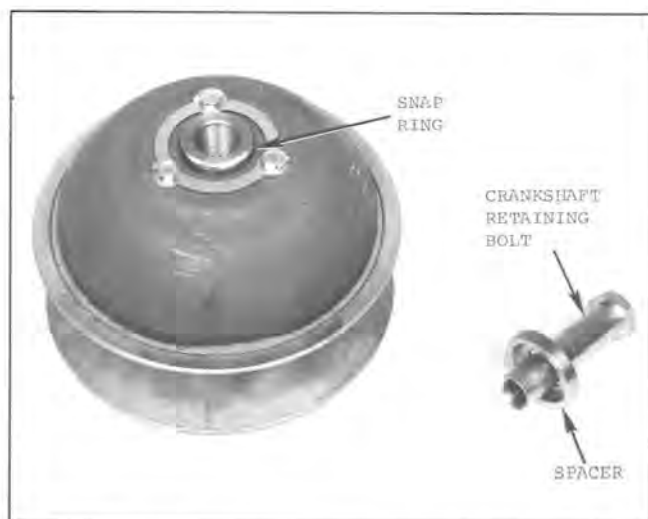

Fig. 60 — Drive Pulley Assembly Used with L 297 Engine
- Refer to Fig. 60. Remove the snap ring from its groove around inner sheath hub assembly.